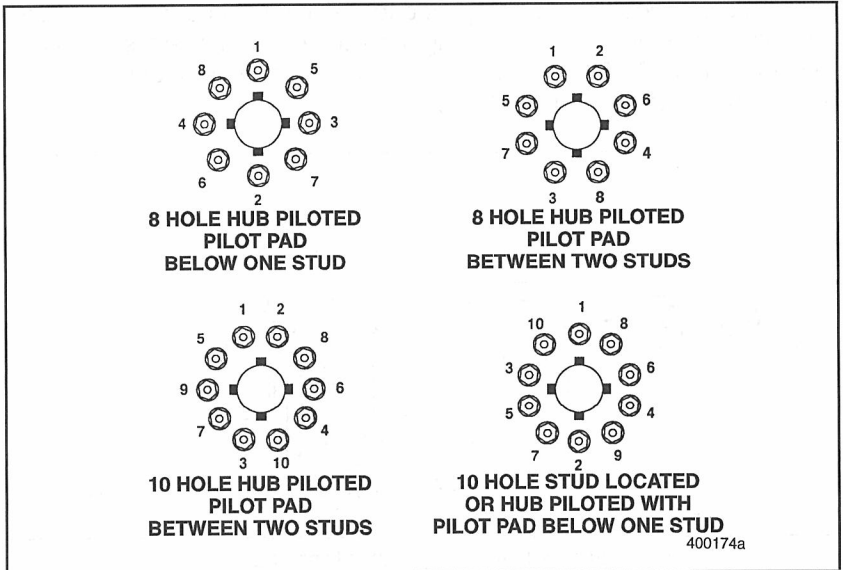

Figure 93 — Disc Wheels with Stud Piloted Ball Seat Tightening Sequence
Dual Disc Wheels (Stud Piloted Ball Seat) — Loosen outer wheel nuts first, then tighten the inner nuts in sequence shown (Figure 93) to the specified torque value given in table on page 256. After inner nuts are tightened, tighten outer wheel nuts, in sequence, to the specified torque value.
3. Starting at the top stud position, partially torque the nuts in the sequence as shown in the illustration Figure 93.